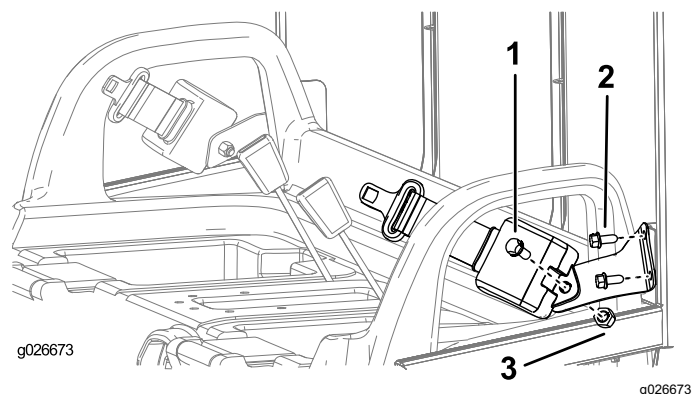

Figure 8
3. Mount the retractable end of each seat-belt assembly to each seat-belt anchor bracket with a bolt (7/16 inch) and a nut (7/16 inch) as shown in Figure 8.
1. Mount a seat-belt bracket to each ROPS tab with 2 bolts (3/8 inch) as shown in Figure 8.